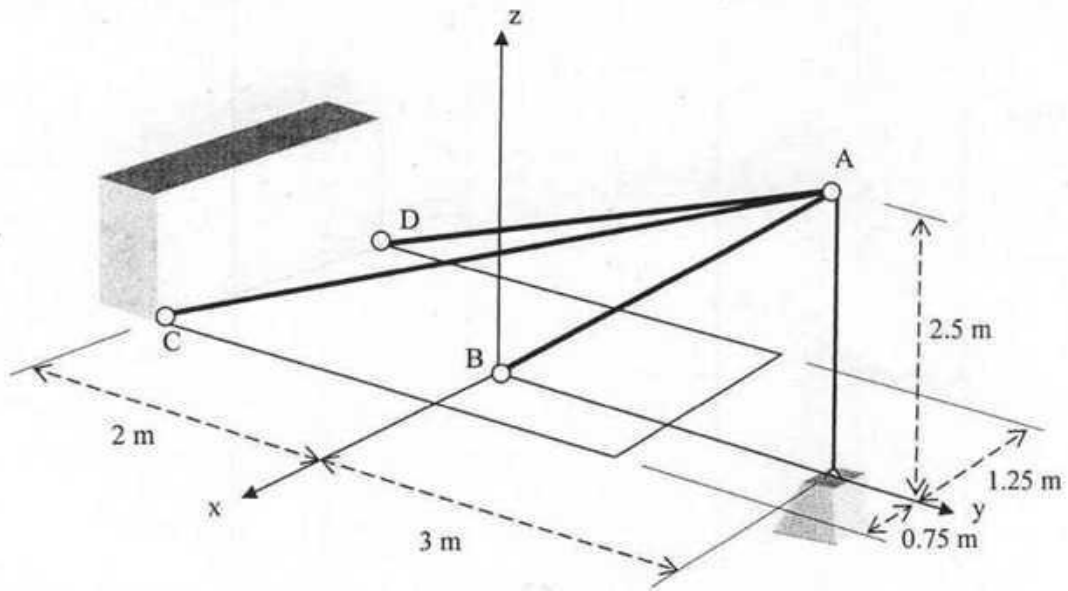

FIGURE 13
14. Referring to FIGURE 13, determine the force acting along the axis of each of the three struts needed to support the 500 kg block. (10)